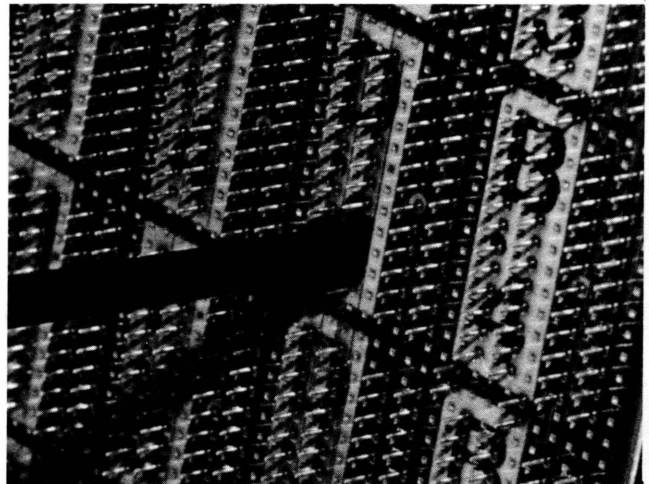

Figure 2-30. Probe Side Pin Alignment
1. Place the tool over the pins to be straightened (Figure 2-30).